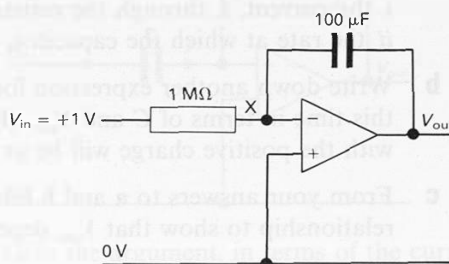

Figure I66
24(L) Consider the circuit shown in figure I66.